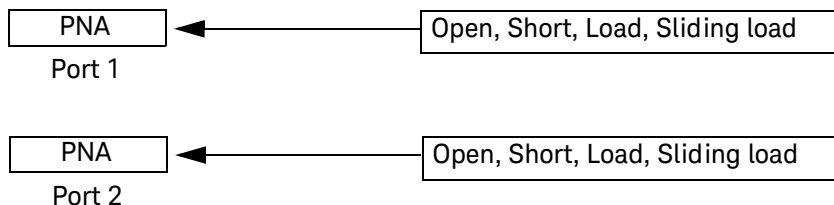

Figure 1-4 System calibration setup
- 1 Set up the equipment for system calibration according to Figure 1-4.